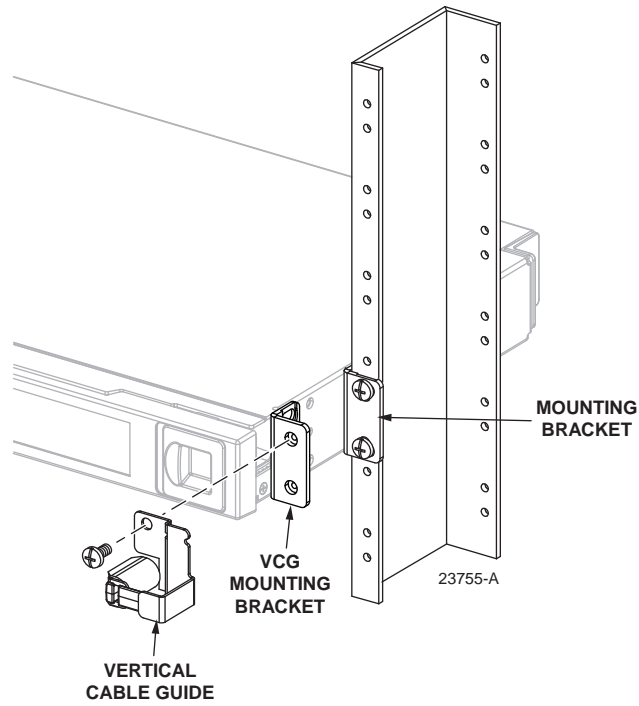

Figure 7. Installing VCGs, 3.1, 5, or 6.5-inch recess (19-Inch Rack Mount)
3.1-inch (7.9 cm) 5-inch (12.7 cm) 6.5-inch (16.5 cm)	Figure 7
- b. Recess is 3.1-inch (7.9 cm), 5-inch (12.7 cm), or 6.5-inch (16.5 cm) and Mount the VCGs on the FMT using the VCG mounting bracket. Secure VCG and VCG mounting bracket to the FMT using the holes located at the front of the FMT. Refer to Figure 7.